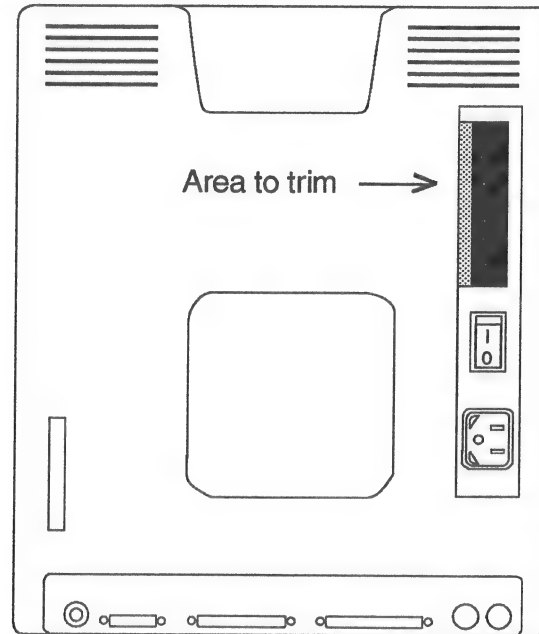

Figure 4-24 Battery door opening
- ☐ 1. Cut back the raised edge of the battery door opening in the rear case half. Remove enough material from the inside edge of the case (shaded area in Figure 4-24) to accommodate the width of the ribbon cable easily, and center the battery door.